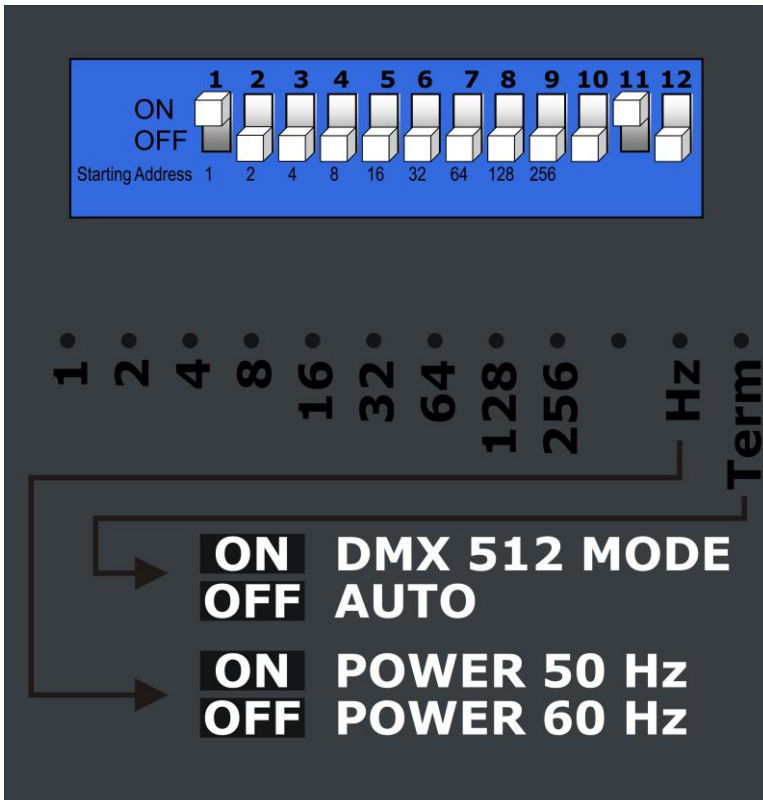

Fig. 5
2. Link the units as shown in Figure 5. Plug a DMX signal cable from the controller to the first unit's DMX "in" socket. Then plug a DMX signal cable from the first unit's DMX "out" socket to the second unit's "in" socket. Repeat this process to link following units.